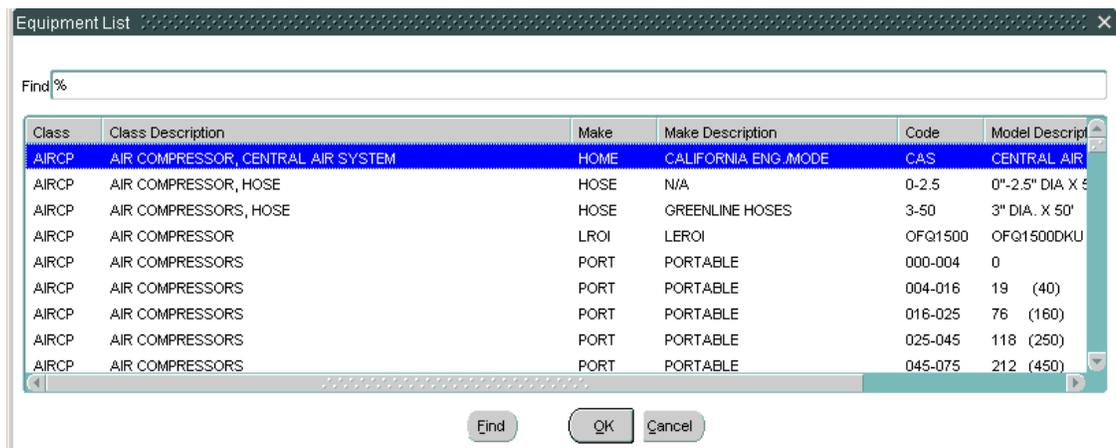

Figure F1.3-3. Equipment List of Values (LOV)
2. Double-click in the **Equipment Class** field to bring up equipment LOV (Figure F1.3-3). When equipment LOV first appears, it is not necessary to move the cursor to the **Find** field, just start typing the first letters of the equipment class code.